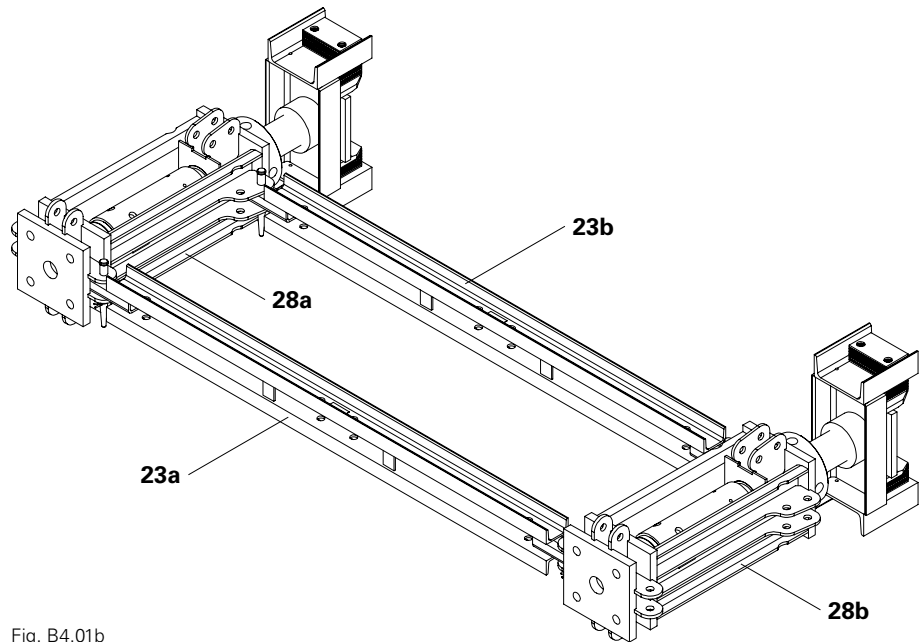

Fig. B4.01b
5. Connect the top Horizontal Ledger VST 200 (**23b**) to the second Head Spindle VST 100 (**28b**) using 1x Fitting Pin \varnothing 21 mm (**9**) and secure with Cotter Pin 4/1, galv. (Fig. B4.01b)